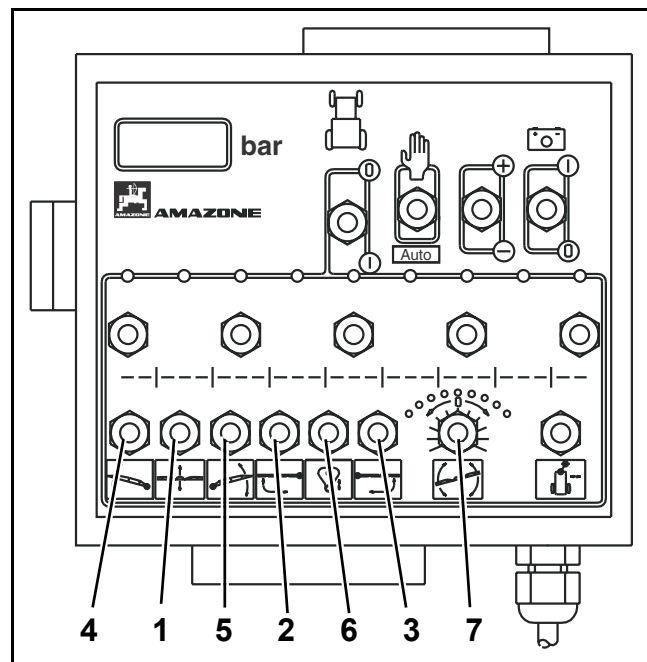

Fig. 109
- Lift boom to a middle height by pressing the key (Fig. 109/1) of the hydraulic height adjustment.
- Keep one of the keys (Fig. 109/2 or Fig. 109/3) in position "folding out" until both boom packs have been folded down and the individual segments have been unfolded completely. The relevant hydraulic rams lock the boom into the operational position.
- Keep key (Fig. 109/2 and Fig. 109/3) in position "folding out" until both boom packs have been folded down and the individual segments have been unfolded completely. The relevant hydraulic rams lock the boom into the operational position.
- Keep the switches (Fig. 109/4 and Fig. 109/5) in position "tip angling" until both boom packs have been folded down **horizontally**.